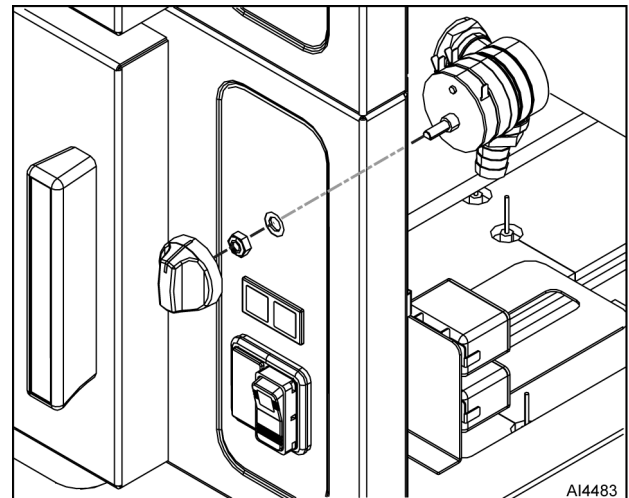

Fig. 61
- Pull knob (Fig. 61) from timer shaft.